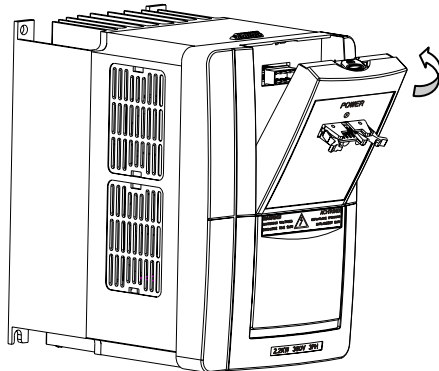

Fig. 3-9 Mounting Demonstration of the operator panel and connecting wire of the inverter Model A
Step 2. Fix the jack panel provided in the optional components in the installation position of operator panel (as shown in the figure 3-9).